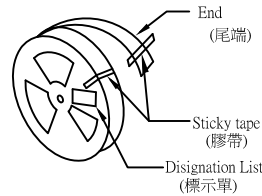

Fig.3
(4)After winding the material belt, stick the COVER TAPE with 60 mmlength, 15 mm width stick belt, and fix it on the circumference of the REEL,as shown in Fig.3.